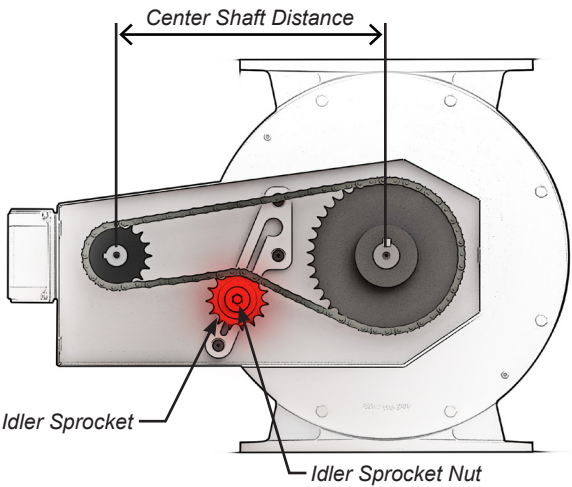

FIGURE 8
- b. Push idler sprocket up along the slide path to tighten chain (Figure 8).